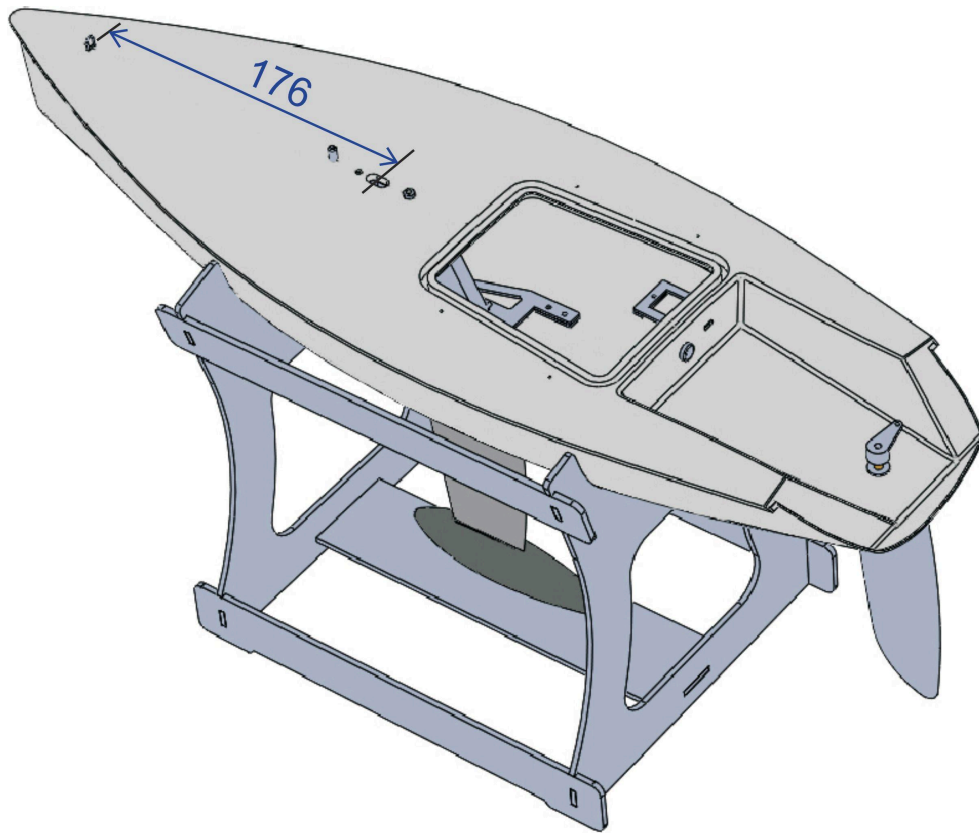

Figure 3: Attachment of Jib Boom Fastener on 2014.v2 Hulls
- On some decks of the 2014.V2 there is no or a wrong marking for the position of the jib attachment. It should be 176 mm from the middle of the mast-position, measured in the length-direction of the boat. See figure 3.